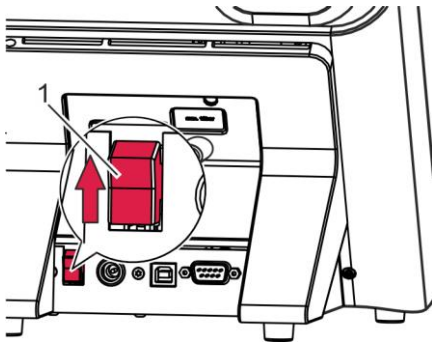

Fig. 24: Switching on the Proofmaster
1. Switch on the Proofmaster with the [I/O] switch (Fig. 24/1) in the direction of the arrow (Fig. 24).